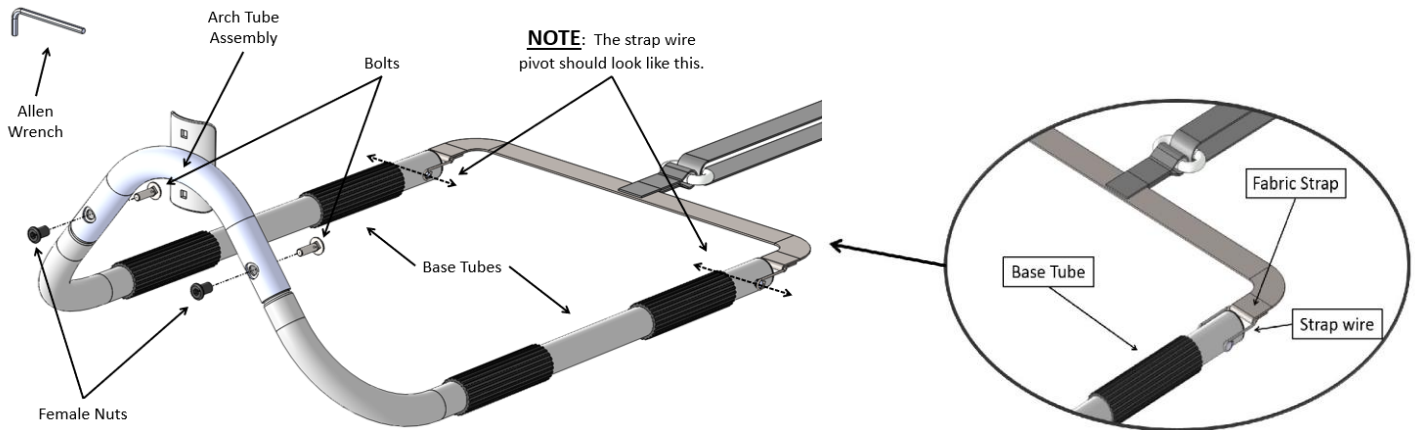

FIGURE 2
2. Attach the Arch Tube to the Base Tubes with Bolts and Female Nuts using the Allen Wrench, as shown in Figure 2.
NOTE: The strap wire at the end of the Base Tubes should be oriented as shown in Figure 2.